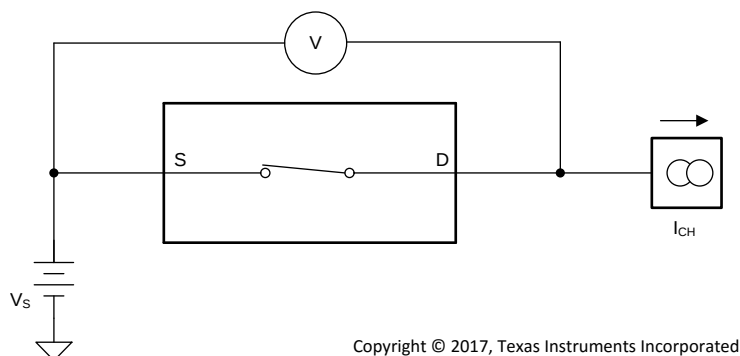

Figure 26. On-Resistance Measurement Setup
(1) X denotes *don't care*..
The on-resistance of the MUX50x is the ohmic resistance across the source (Sx, SxA, or SxB) and drain (D, DA, or DB) pins of the device. The on-resistance varies with input voltage and supply voltage. The symbol R_{ON} is used to denote on-resistance. The measurement setup used to measure R_{ON} is shown in Figure 26. Voltage (V) and current (I_{CH}) are measured using this setup, and R_{ON} is computed as shown in Equation 1: